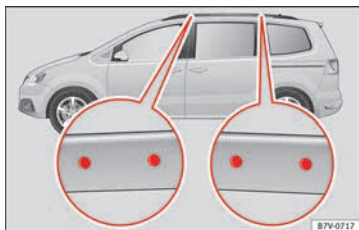

Fig. 175 Attachment points for the basic support and the roof carrier system
The position openings are located on the inner side of the side roof rods » Fig. 175.
- The base support should only be fitted to the points indicated in the diagram » Fig. 175.